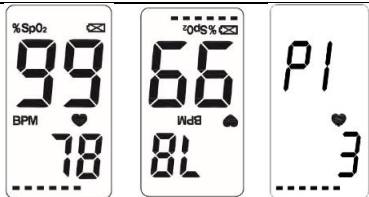

Figure 8
- For POD-2 and PC-60A, the display screen is as shown in figure 8, short press the display key to change display directions, long press the display key to shift the parameter display between PR and PI.